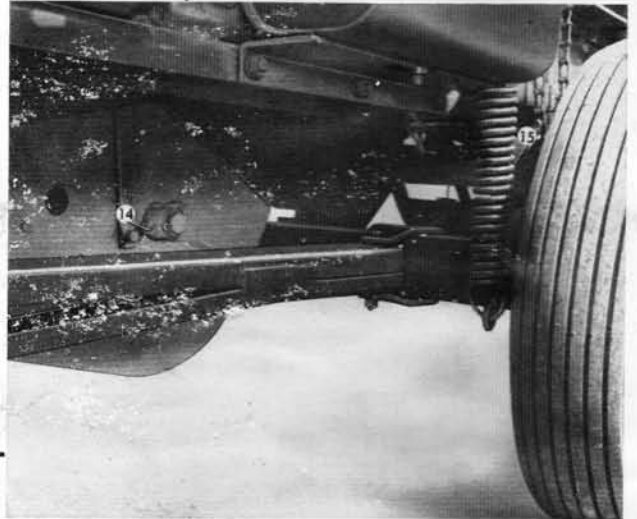

FIGURE 6
14. Figure 6—Left pickup reel shaft.
15. Figure 6—Pickup pivot arm.